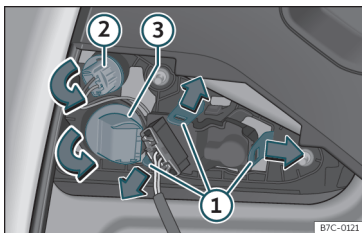

Fig. 50 Remove the bulb holder.
- Unlock the securing tabs from the bulb holder >>> **Fig. 50** ① or turn the bulb holder to the left ②.